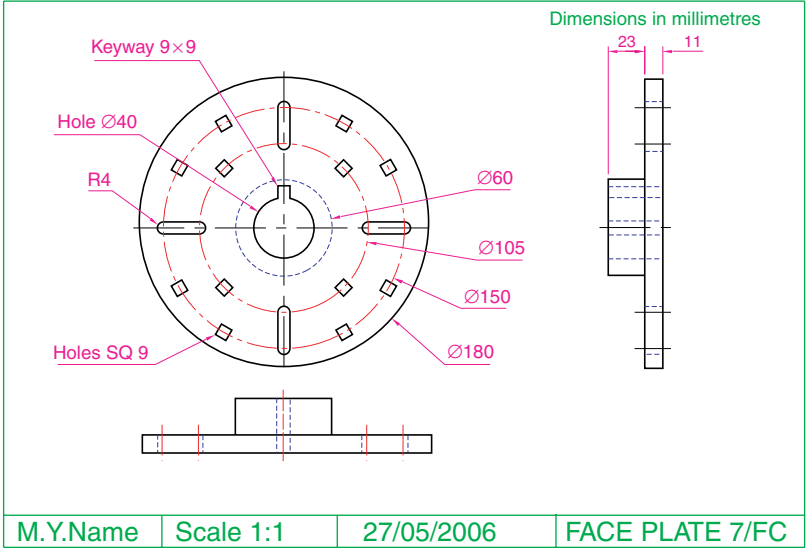
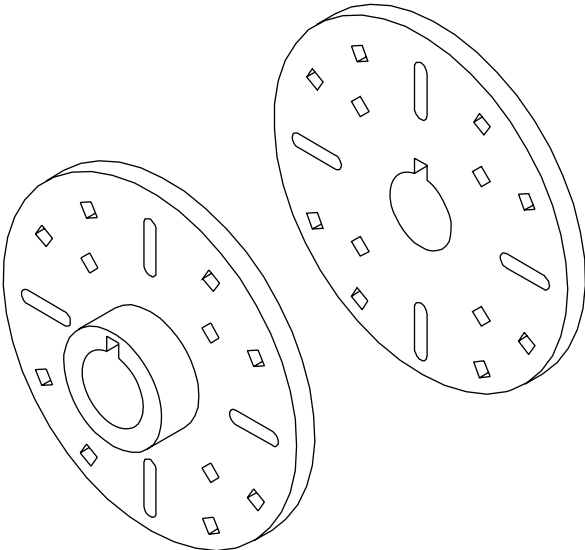

Fig. 14.18 Exercise 5 – dimensions
Fig. 14.19 Exercise 5
- 5. Working in a **Three: Left** viewport setting, construct a 3D model of the faceplate to the dimensions given in Fig. 14.18. With the **Mirror** tool, mirror the model to obtain an opposite facing model. In the **Isometric** viewport call the **Hide** tool (Fig. 14.19).